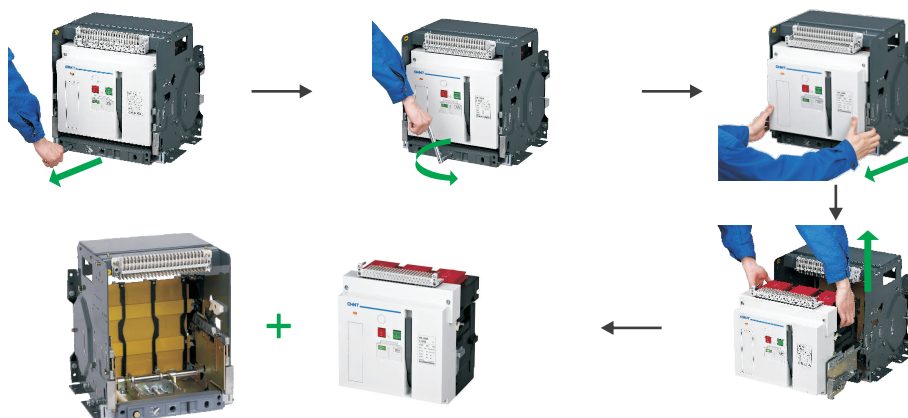

Figure 16 Installation of drawer switch disconnector
7.2.1 For the NH1-1000 model, fix the drawer seat on the mounting plate of the power distribution cabinet and fasten with 4 M8 bolts (with washers), with a mounting torque of $10.3\text{--}14.4\text{ N} \cdot \text{m}$; for the NH1-2000~4000/3 model, fix the drawer seat on the mounting plate of the power distribution cabinet and fasten with 4 M10 bolts (with washers), with a mounting torque of $20\text{--}28\text{ N} \cdot \text{m}$, as shown in the figure 16(the drawer switch disconnector can be installed vertically with the special bracket).